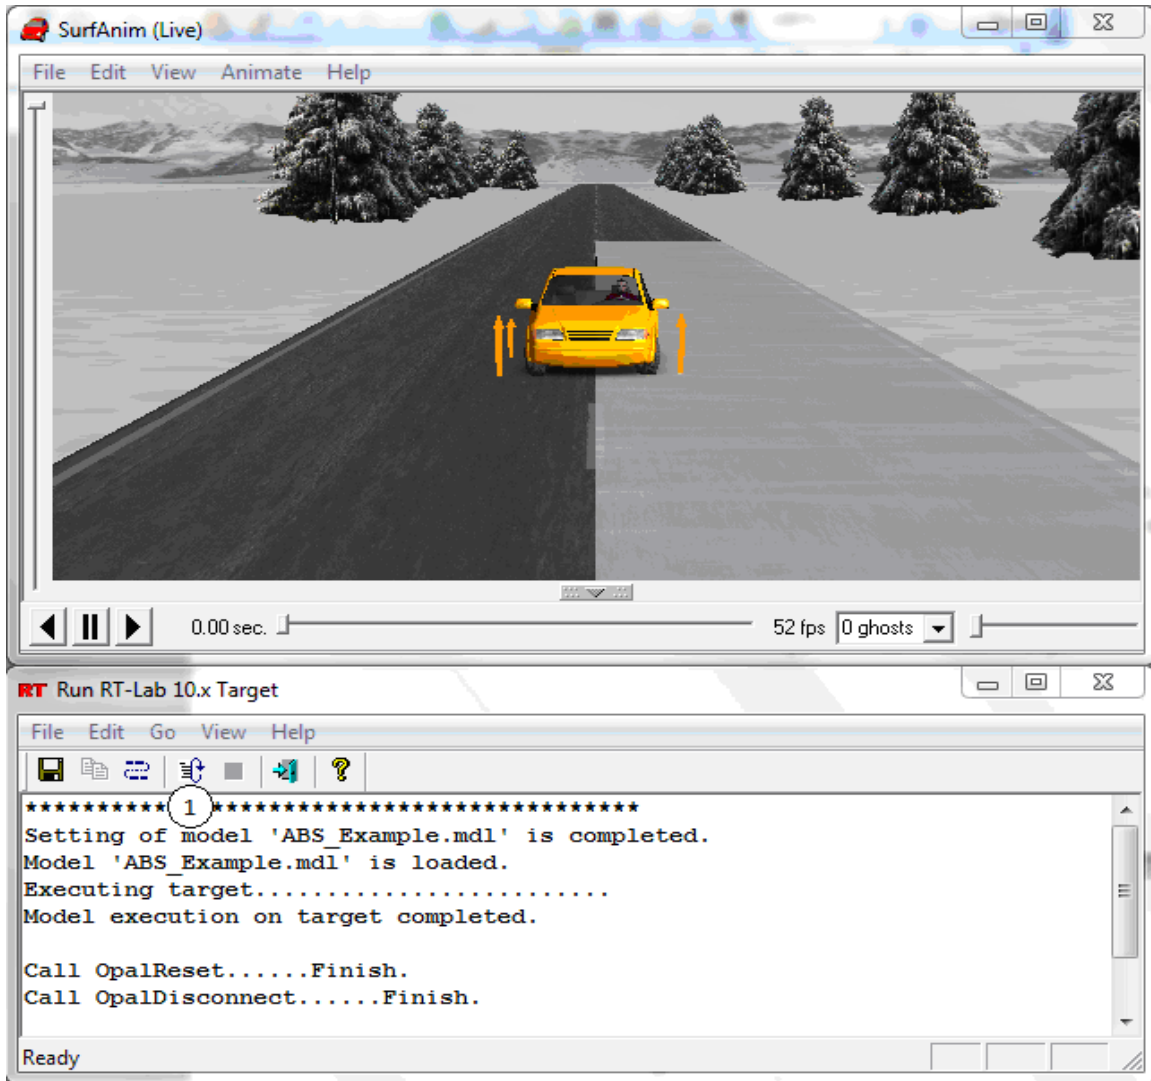

Figure 15. Run RT-Lab Target.
Now, go back to the **Overview** tab in the "RT-Lab GUI" software and click **Load** ③. This will load the model and Parsfile to the target and initialize the model, after which you can click **Execute** to start the animation (Figure 15).
2. Click **Pre-Run** in CarSim to generate the latest Parsfile(s). Also make sure to open the "Live Animation" program. From here, you can use the "RT-Lab GUI" software to run the model by clicking **Load** and **Execute** or you can use the "RT-Lab 10.x Target" program (Figure 15) by clicking the rerun button  ①.
2. You can choose whether Matlab stays open or not after the simulation finishes. You can do this in the "Run RT-Lab 10.x Target" program (Figure 15) through **File→Keep Matlab Open**. You can also set it in the "RT-Lab" GUI software through the **Simulation Tools** tab.